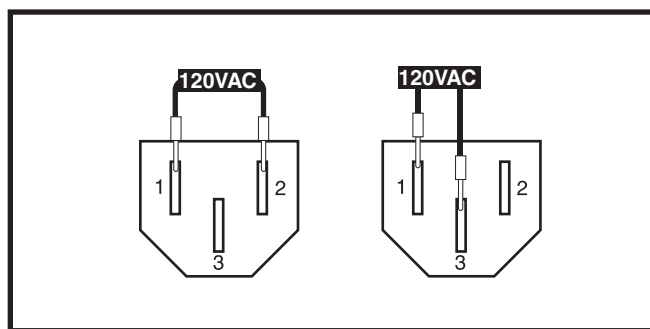
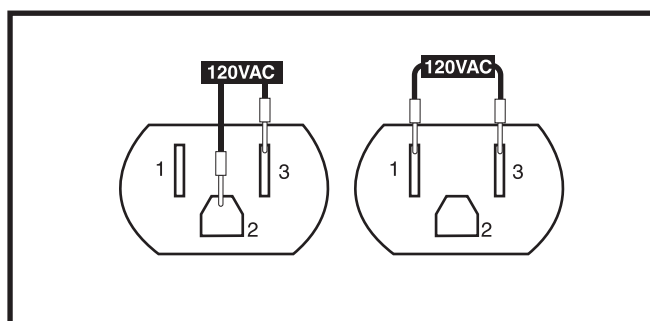
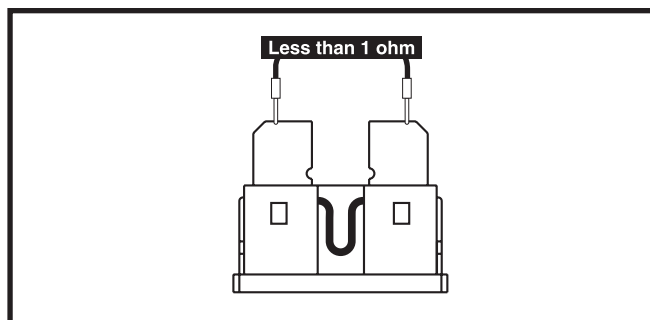

Figure 22. Charger Power Cord 3-pin Connector
Figure 23. Electrical outlet
Figure 24. Fuse 3d
23. Measure AC voltage across pin 1 and pin 2 and across pin 1 and pin 3 of the charger power cord 3-pin connector. **See figure 22.**
- *If your multimeter indicates about 120VAC in both tests, replace the charger power interface harness (5) and retest the system.*
25. Measure voltage across pin 2 and pin 3 and across pin 1 and pin 3 of the electrical outlet. **See figure 23.**
26. Verify that the charger/inhibit harness (3) is connected to the fuse and ammeter (3c) properly. **See diagram 2.**
29. Measure resistance across the two blades of the fuse. **See figure 24.**
- *If your multimeter indicates less than 1 ohm, then replace the charger/inhibit harness (3) and retest the system.*